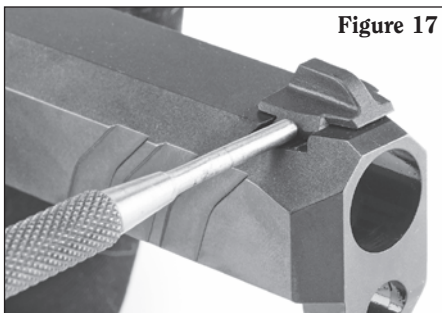

Figure 17
2. Place the punch against the wide base of the front sight and gently tap the punch to move the sight sideways and off the slide (see Figure 17).